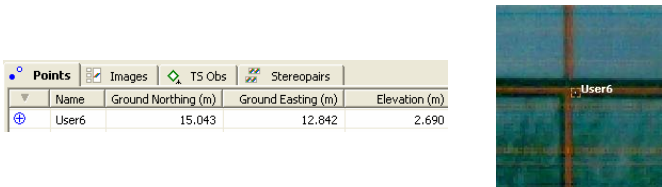

Figure 10-6. Points, Image Tabs Display the Image Measured Point
4. Topcon Tools will calculate the coordinate of this point in the *Ground* coordinate system. The *Points*, *Images* and *Stereopairs* tabs will display the image measured point (Figure 10-6).